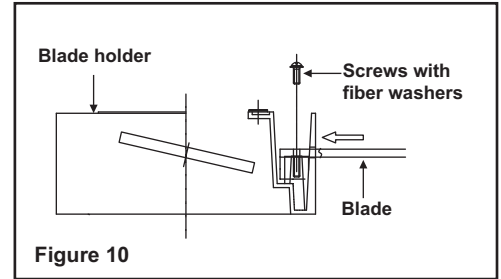

Figure 10
Step 1. Insert the blade through the slot in the blade holder. Align the holes in the blade and the fan blade holder and secure with a screw and fiber washer. (Fig. 10)